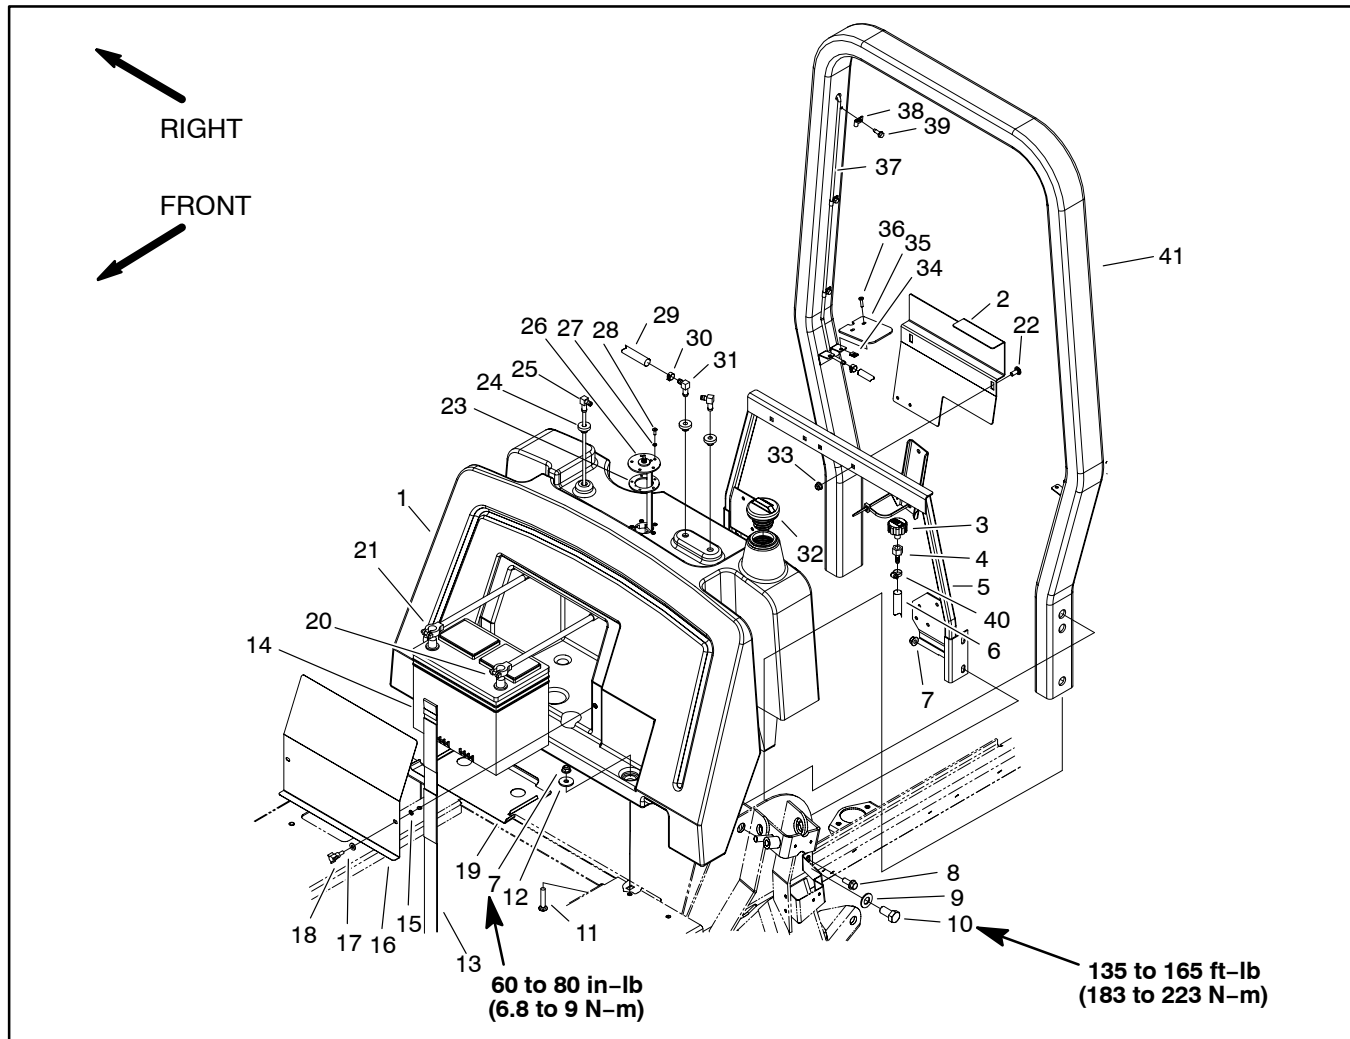

Figure 7
Fuel Tank Removal (Fig. 7)
7. Remove phillips head screws that secure two (2) tank covers to ROPS assembly. Remove tank covers.
8. Remove fuel tank using Figure 7 as a guide.
Fuel Tank Installation (Fig. 7)
1. Install fuel tank using Figure 7 as a guide.
- A. Torque two (2) flange nuts (item 7) that secure the fuel tank to the frame from **60 to 80 in-lb (7 to 9 N-m)**.
2. Install two (2) tank covers to ROPS assembly.